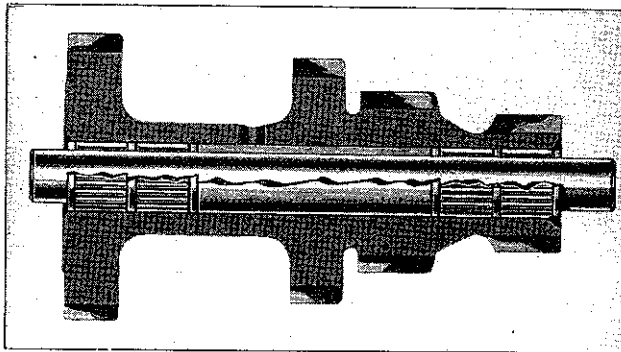

FIG. 209—COUNTERSHAFT GEAR BEARINGS
**a.** On early production F4-134 4x4 Models, the countershaft gear assemblies included only four washers. No washers were installed at the ends of the spacer. On later production F4-134 4x4 vehicles and all other 4-wheel-drive vehicles, a shorter spacer and the two additional washers shown in Fig. 209 were used. When a transmission of the earlier type is disassembled, change to the shorter spacer and add the two washers upon reassembly.